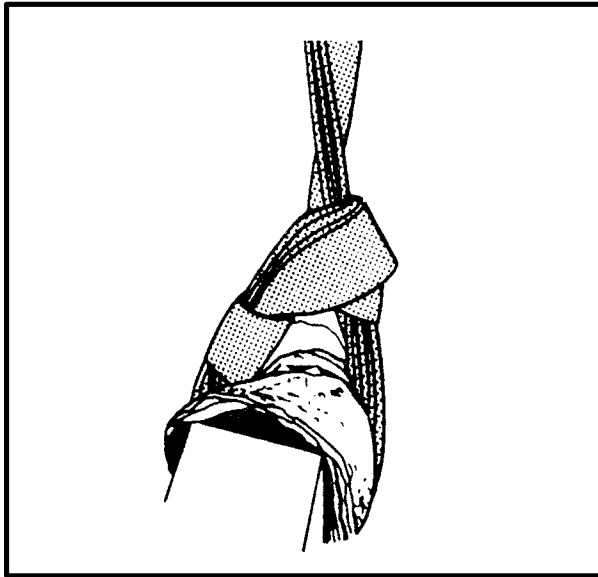

*Figure 6-32. Basket Hitch*
(2) The basket hitch (Figure 6-32) attaches sling legs to the load or to the ring. It is easy to remove this hitch